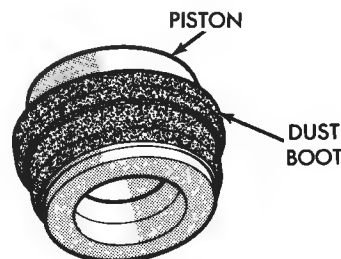

Fig. 22 Installing Dust Boot On Piston
(5) Install dust boot on caliper piston (Fig. 22). Slide boot over piston and seat boot in piston groove.